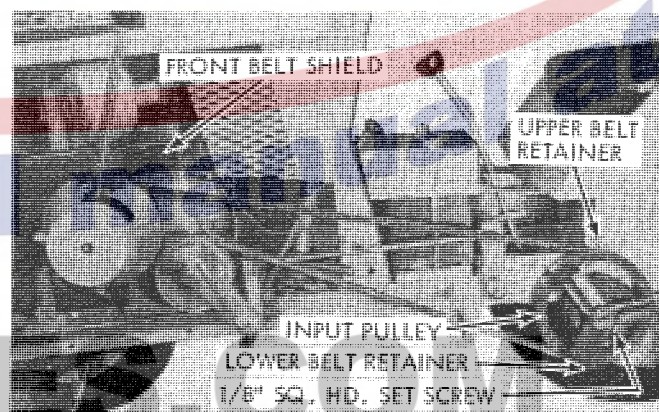

Figure 52.
7. Refer to Figure 52 and loosen the square-head set-screw which secures the rear input pulley to its shaft. Slide the pulley out on the shaft far enough so that the belt will clear the upper and lower traction drive belt retainers.